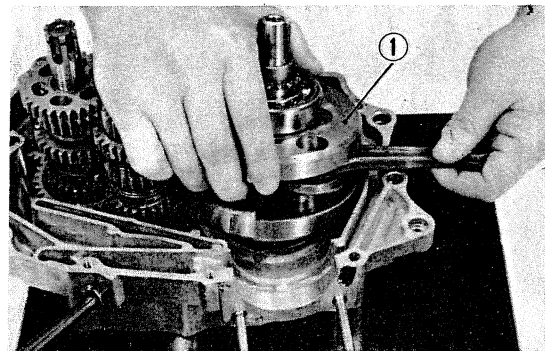

Fig. 83 Crankshaft disassembly
- 7) Support the right crankcase lightly and then gently tap the crankshaft on the right side to loosen and then separate it from the case. (Fig. 83)